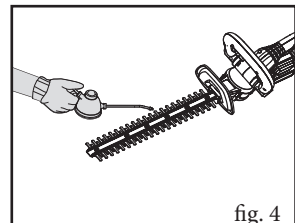

fig. 4
4. Before work check the cutting rail and oil it if needed (fig.4)